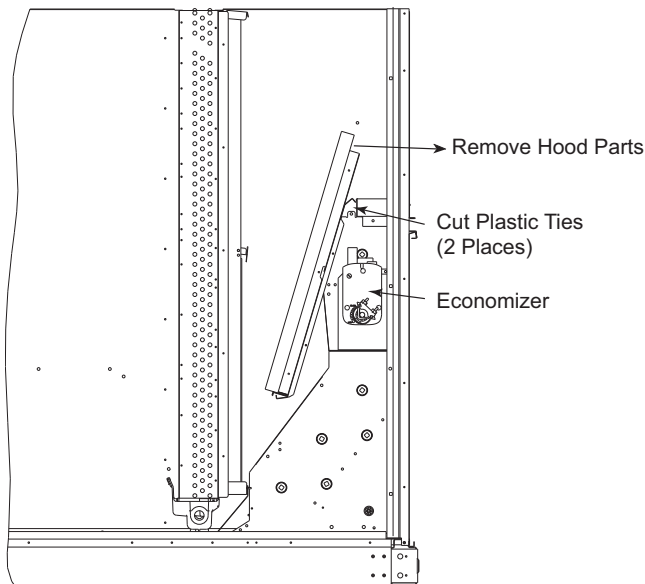

Fig. 19 — Economizer Hood Package Location
2. Locate and cut the 2 plastic tie-wraps, being careful to not damage any wiring. (See Fig. 19.)